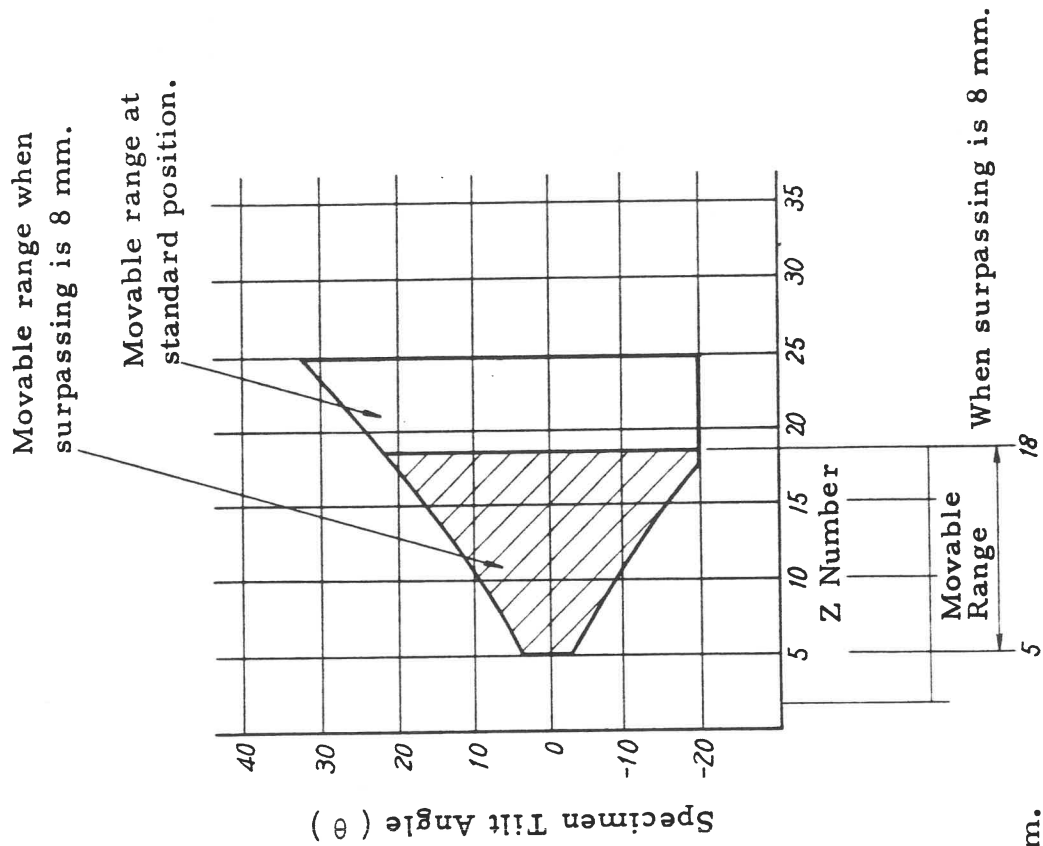

Fig. 2-13 Example of Movable Range of Z and θ when Surpassing Standard Height Seeting
- (iv) Take reading of the allowable range (Fig. 2-13).